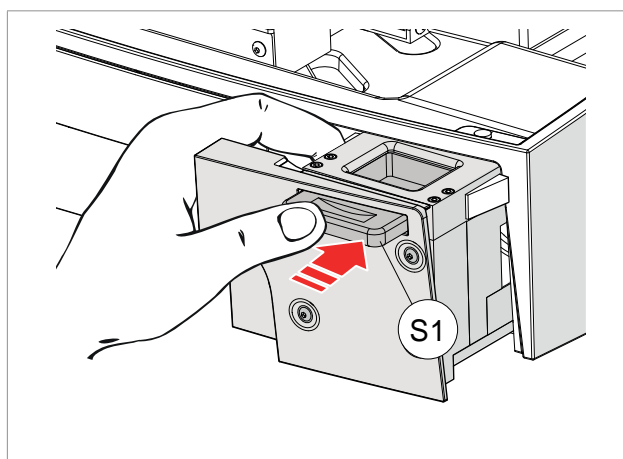

Fig. 76
- 1) Pull the photo reader unit (S) out all the way.
- 2) Hold the unit firmly with one hand and push the handle (S1) (Fig. 76).